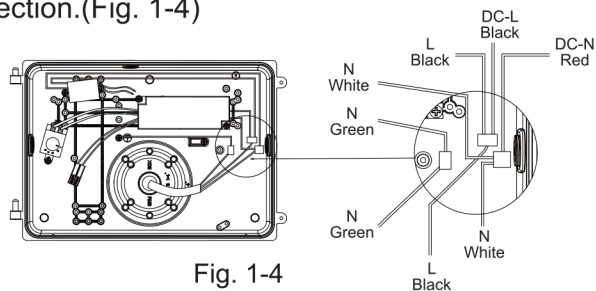

Fig. 1-4
- Make wiring connections per “Electrical Connections” section and make sure the good wire protection.(Fig. 1-4)